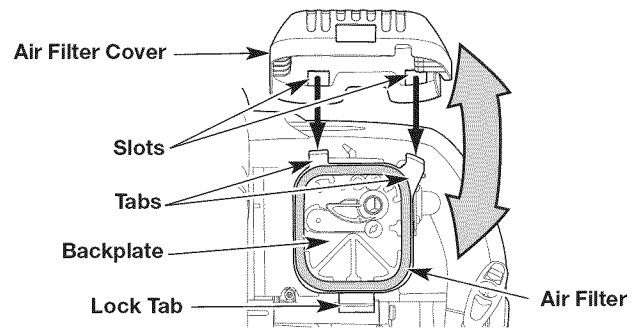

Fig. 19
1. Remove the air filter cover: press in the lock tab and swing the air filter cover up (Fig. 19).
2. Remove the air filter (Fig. 19).
6. Reinstall the air filter (Fig. 19).
7. Reinstall the air filter cover: place the slots on the air filter cover onto the tabs on the backplate. Swing the air filter cover down and press it closed until the lock tab snaps into place (Fig. 19).